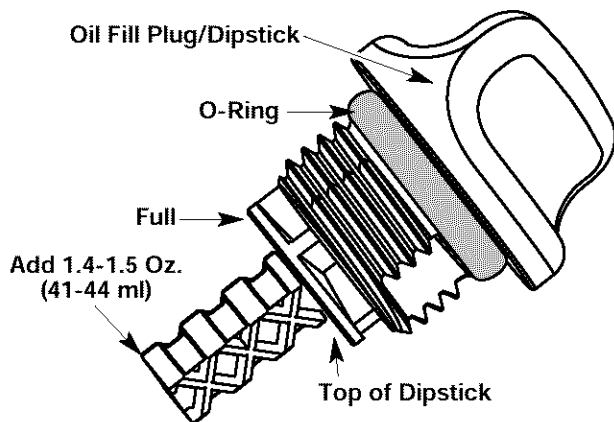

Fig. 31
5. Remove the oil fill plug/dipstick and check the oil level. Oil should be up to the top of the dipstick (Fig. 31).